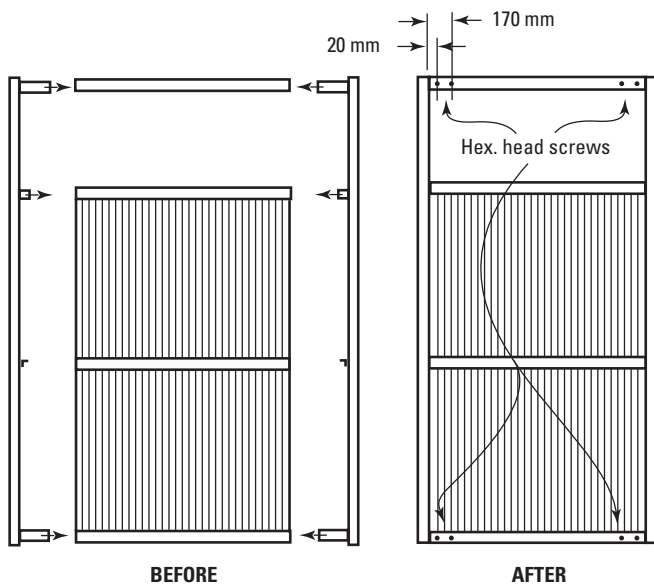

Figure 22.2
7. Insert the spigots of both stiles into the top and bottom rails and locate the centre rail on its clips. If a lattice is used, ensure that the lower top rail fits neatly onto the lattice gate clips (Figure 22.2). Even up the sheets by bumping the ribs with the palm of your hand.
8. Hold both stiles firmly in place and drive one hex. head screw #10–16 x 16 in each of the four corners, 20mm from the inside edge of the stile (Figure 22.2).
9. Check squareness by measuring the gate's diagonals. Drive a second hex. head screw (#10–16x16) in each of the four corners, 170mm from the stile (Figure 22.2).